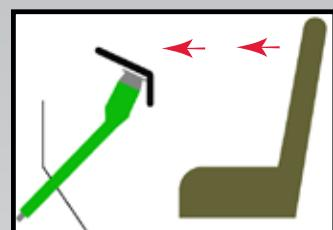
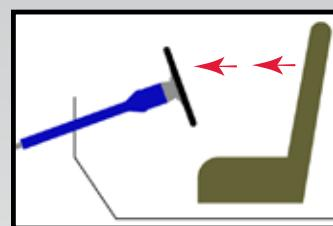

FIGURE 2
FIGURE 3
**NO SEAT BELT** - Figure 2 shows the result of an unprotected driver being lifted off the seat and impacting the steering wheel with full force. Due to the vertical angle of the column, the steering wheel is unable to stop the driver from hitting the windshield. While you should always wear a seat belt regardless, Figures 3 and 4 demonstrate how angling the columns in a more horizontal position, allows it to collapse properly on impact and will give the body less tendency to go over the wheel and into the windshield. Wear your seat belt.
**SEAT BELT WITH SHOULDER HARNESS** - This is the ideal system that combines the safety of the seat belt and shoulder harness with the horizontal angle of the column (shown in Figures 3 & 4) to help keep you in your seat, allowing the collapsible column do its job properly and lessen the impact of the crash.